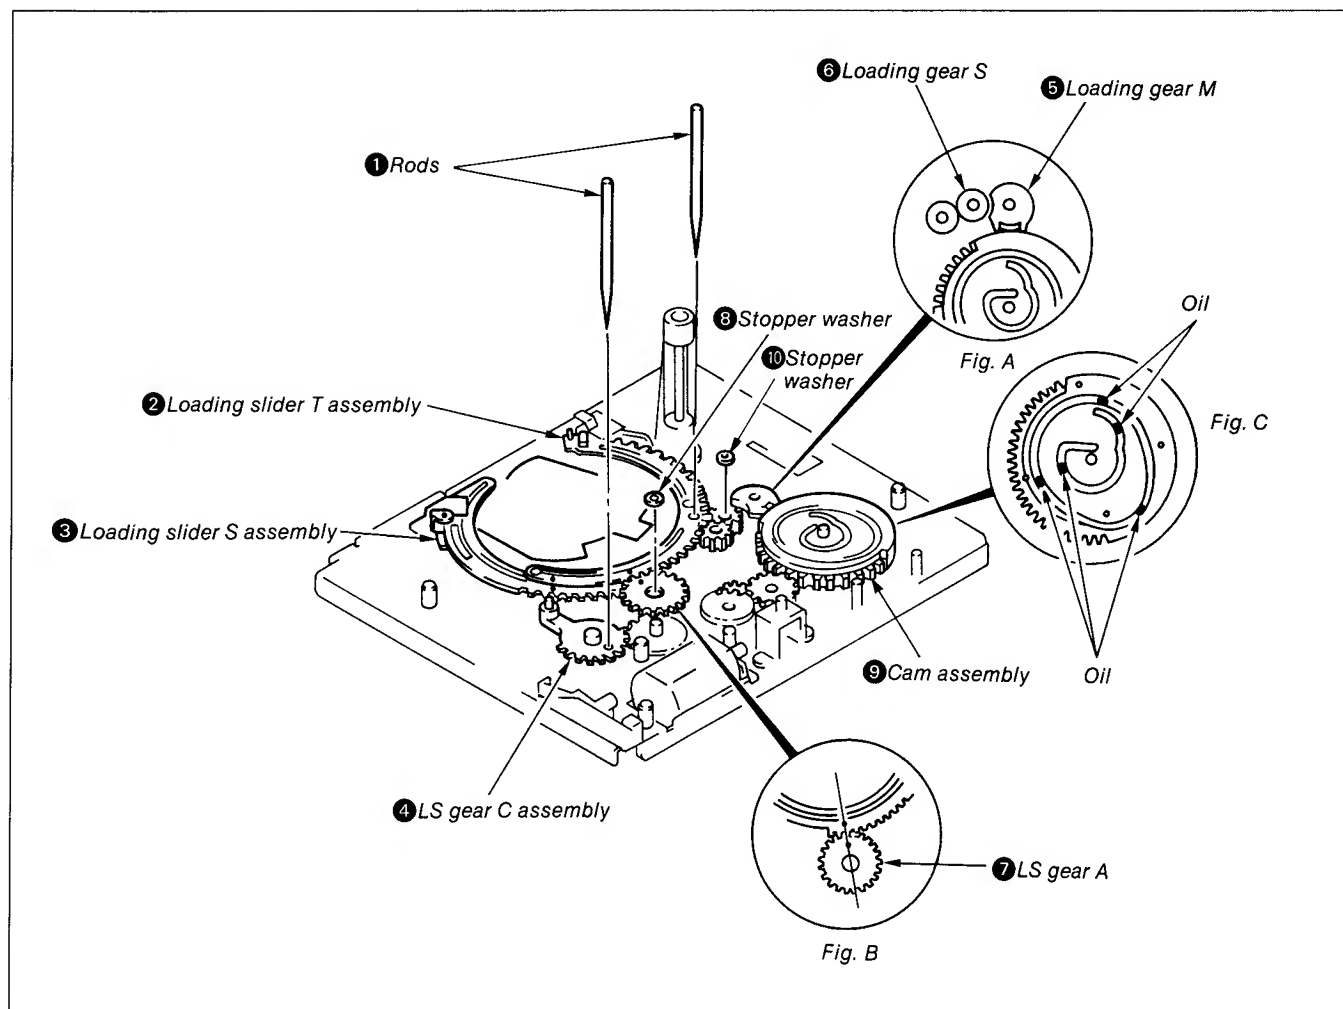

Fig. 8-30.
### 8-3-17. Phase Adjustment (See Fig. 8-30)
- 4) By referring to 8-3-24, remove drum unit. (See Fig. 8-30)
- 5) Remove the stopper washer ⑩ and then remove the loading gear S ⑥.
- 6) Remove the stopper washer ⑧ and the LS gear A ⑦.